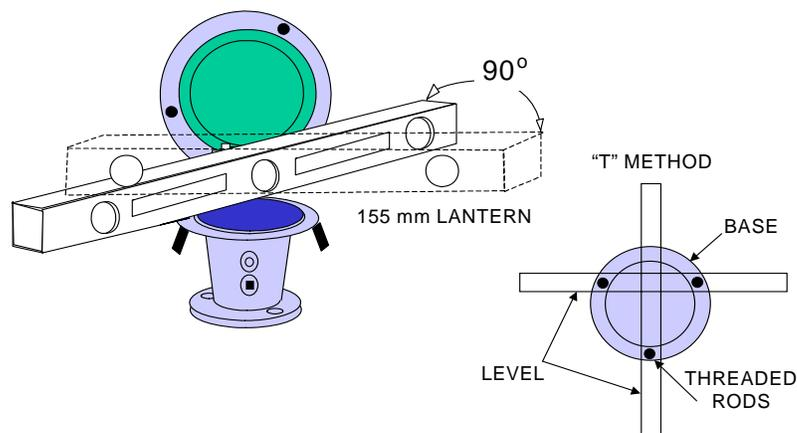
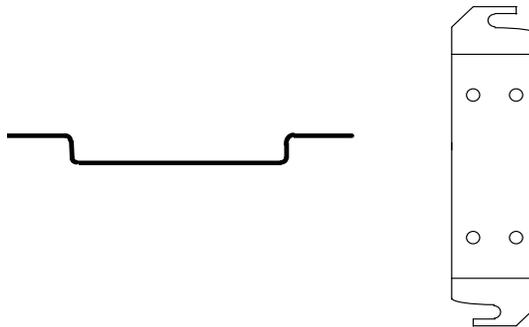

Figure 3-2
Figure 3-3
- (2) Position lantern over threaded rods. Place a flat washer and Nylock nut on each rod but do not tighten completely.
- (3) With lens open, place a level on the flange of the lantern base. Use the "T" method shown in Figure 3-2 so that adjustment of one leveling bolt won't affect the other adjustment.
- (4) Adjust the leveling nuts up or down until level.
- (5) Move the level ninety (90) degrees from your first position and readjust. See Figure 3-2.
- (6) Repeat steps until the lantern is level in both positions.
- (7) Tighten top nuts on mounting studs/bolts and recheck levelness of lantern. **DO NOT OVERTIGHTEN.**
- (8) Obtain a tested CG-6P lampchanger and CG-181/493/504 flasher with the appropriate hardware (see Chapter 4).
- c. Attach the mounting bracket between the base of the CG-6P lampchanger and flasher with **four** 10-32x1" screws supplied so that the dip in the bracket is down (see Figure 3-3). The wires from the WK-681 wiring kit must pass **under** the bracket. Attach the bracket to the screws in the base. **Note:** The lock washer must be on top of the bracket or the focal height of the lamp will be affected.